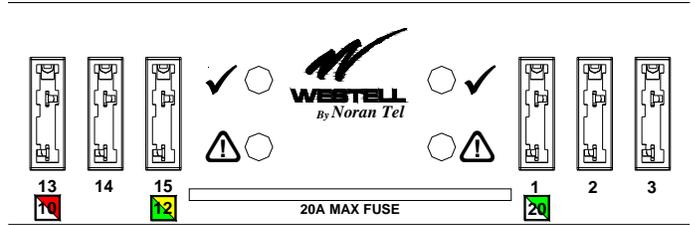

Figure 1.4.1
1.4. Alarm circuits are provided to alert service personnel of fault conditions. A fuse alarm is a blown fuse within a given bus. A red fuse alarm LED  on the faceplate will illuminate when a fuse alarm condition is present. As well, the green Normal Operation LED  will extinguish to signal a fuse alarm or input power failure and the appropriate relay contacts will change states. These fuse panels have common (C), normally open (NO) and normally closed (NC) terminals for alarms. Note, the use of the alarm contacts is optional, if you do not wish to extend the alarms, you don't have to do anything with the alarm pins. The "Normal" condition of the relay exists when the panel is powered up without any blown fuses. The local alarm LEDs are located on the front of the panel as shown in Figure 1.4.1
4.12 Install amperage marking labels as required below each fuse for identification of circuit rating (see fig 1.4.1). For fuse color codes please see table 4.12.1